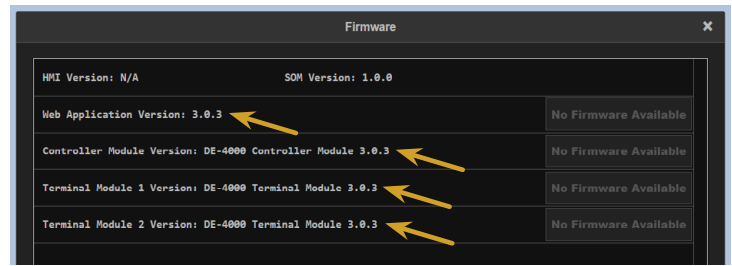

Figure 4
7. The firmware versions for each device will be shown. See Figure 4. Check the Web Application, Controller Module, and Terminal Module versions, and if they are correct, move to the next step. If any information is incorrect, start the update procedure from the beginning.